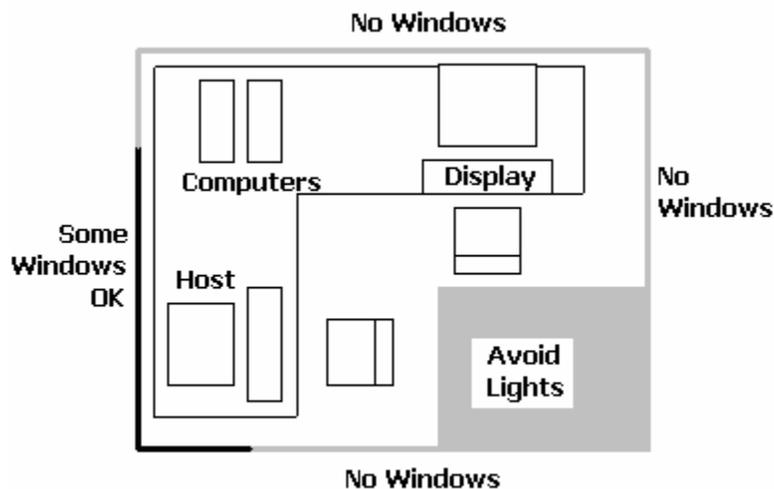

Figure 1-1: Suggested EyeLink II System Layout
- Set up the Host and Display PC monitors on tables arranged in an 'L' shape, as in Figure 1-1. This configuration allows the experimenter to set up the headband and the participant's left eye camera, while having access to both computer keyboards and monitors.
- Avoid windows or other bright light sources that could cause reflections on the host and display monitors. Windows or incandescent lights on the walls behind or near the display monitor may interfere with the head-tracking camera. The grey walls highlighted in Figure 1-1 are locations where bright light sources will cause reflections.
After setting up the Host and Display PCs at the desired locations (see Section and Figure 1-1 for a suggested layout) you are now ready to start assembling the EyeLink II components and installing software on the Host and Display computers.